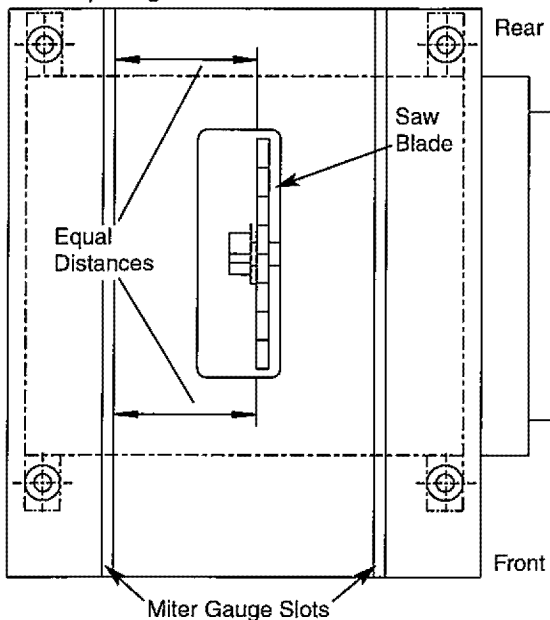

Figure 21 - Aligning Miter Slots to Blade
Refer to Figures 21, 22 and 23, page 10.
- Gauge this tooth with the dowel rod. If the tooth is in the same position, relative to the miter gauge slot, the table is parallel with the blade. In short, the miter gauge slots must be parallel with the blade. This means that when measuring distance between blade and miter gauge slot at the front and rear of the blade, the distances will be equal (see Figure 21).